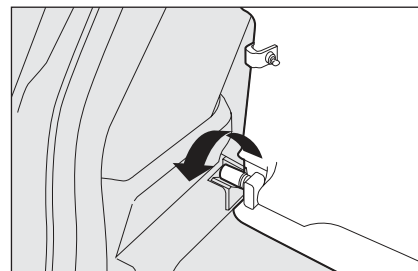

fig. 113
- ☐ Front parcel shelf: release and turn the parcel shelf from its seat and release the two pins from the side seats **fig. 113**.